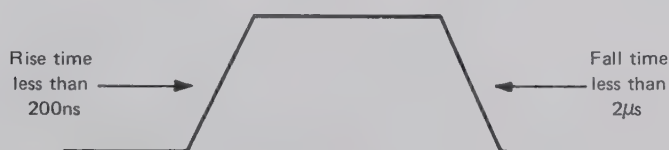

Fig. 5.2 Switching Waveform
10. Check that the switching waveform is within the limits shown. Fig. 5.2.